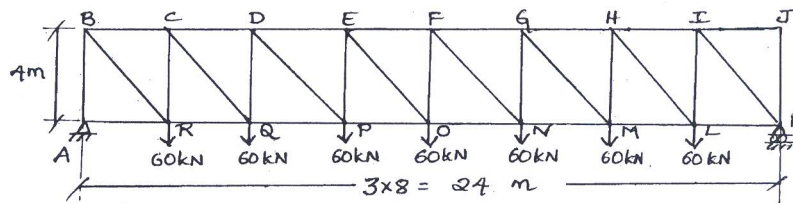

Fig Q1(b)
b. Find the forces in the members EF, EP, EO and PO of the truss shown in Fig Q1(b) by the method of (14 Marks)